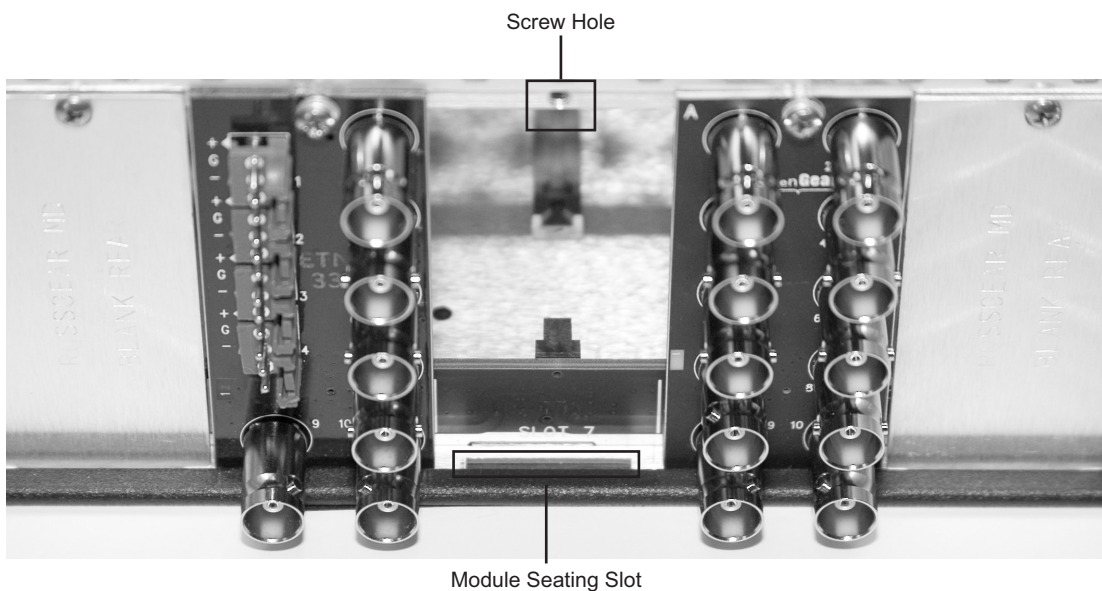

Figure 2.1 Rear Module Installation in a DFR-8300 Series Frame (ADC-8434-A not shown)
3. Install the bottom of the Rear Module in the **Module Seating Slot** at the base of the frame’s back plane. (**Figure 2.1**)